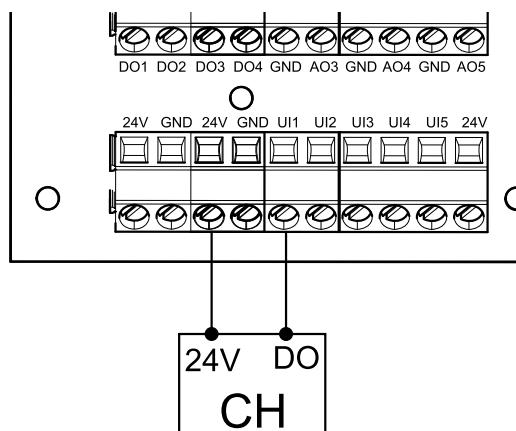

Fig. 9 Connection of the cooker hood
1. Connect control signal wires from the cooker hood to any free universal input and 24 V on the external connection board (figure 9). For more information about connection board see 8.2 *External connections (Connection board)*, page 49.